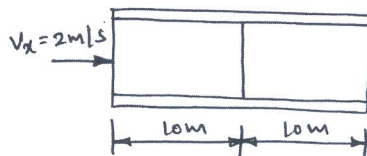

Fig.Q8(b)
b. For the smooth pipe shown in Fig.Q8(b), with uniform c/s of 1 m^2 . Determine the flow velocities at the centre and right end, knowing the velocity at the left is $V_x = 2 \text{ m/s}$.